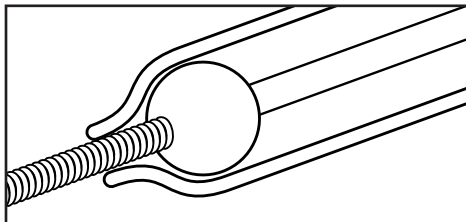

Figure 2
3. Remove the 0.035" placing guide wire and position the Occluding Wire so that the distal tip of the catheter is occluded by the wire. (Figure 2)